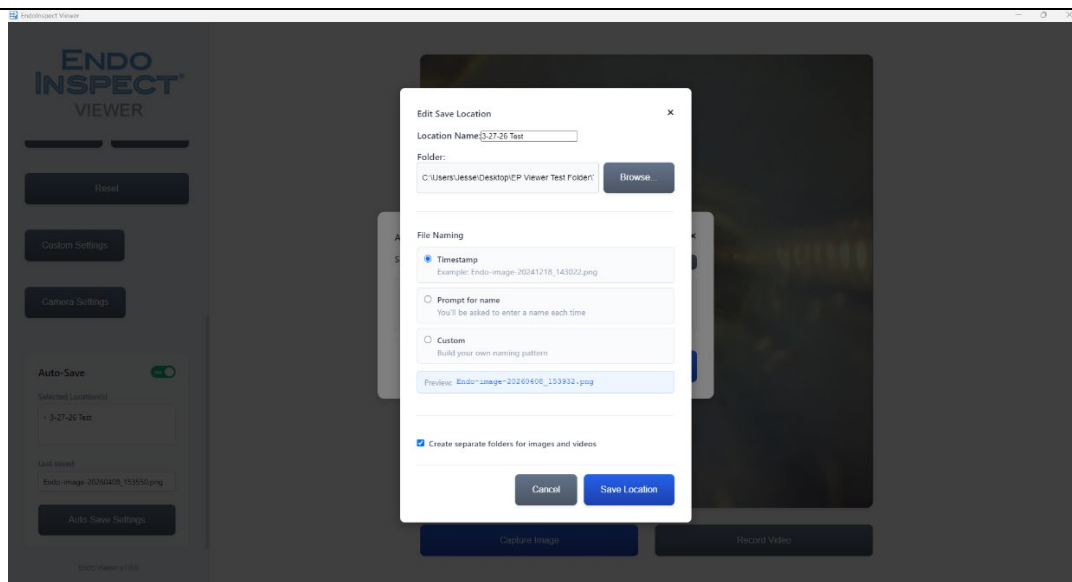

Fig. 10
8. **Auto Save Menu-** Touch or mouse click this button to toggle on / off, load and display menus pertaining to the saving of captures image and video files. Select a location name, destination folder and file naming convention from the available menus. (Ref. Fig. 10)